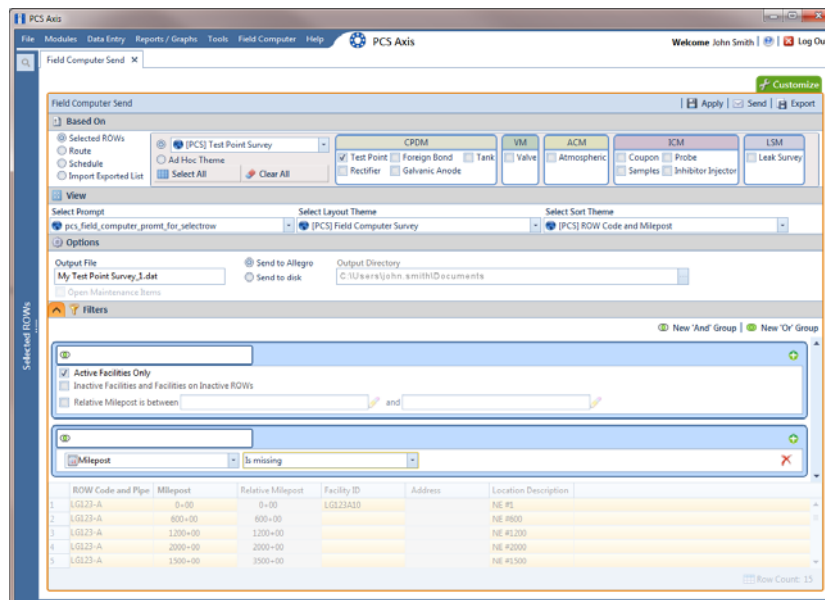

Figure 13-3. New 'And' Filter
- 7 If you want to work with a subset of facility records that meet *all* filter conditions, create an AND filter group using the following steps (Figure 13-3):
- 10 If the check box **Open Maintenance Items** is available for selection, click the check box if you want to include open maintenance records in the survey file (Figure 13-3, page 520).